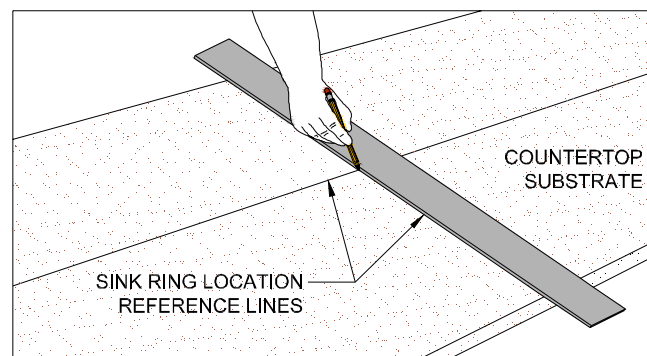

Figure 26B
- Locate where the ring is to be installed into the substrate and draw alignment centerlines. (FIG. 26B)